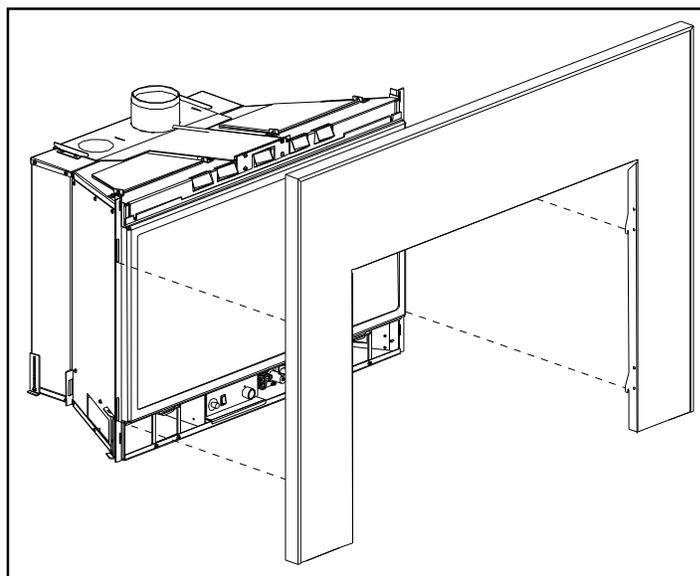

Figure 23: Filler panel with trim installation.
To install the panel, lift the panel upright in front of the fireplace with the four (4) hooks pointing towards the fireplace. Slide the hooks into their corresponding slots (see Figure 23). Ensure the hooks are pushed all the way into the slots and the notch on the hook must be on the bottom of the slot. The panels should be wiped with a damp cloth periodically.